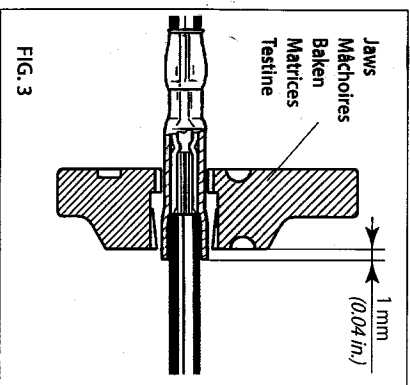

FIG. 3
- For through connectors repeat this crimping sequence for the opposite end (see Fig. 3).